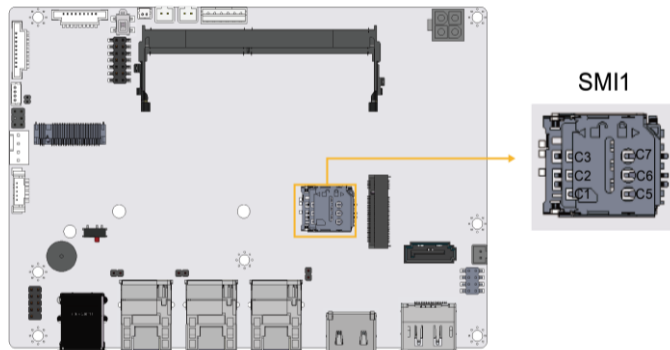

Figure 4-14: SIM Slot Location
- CN Location:** See Figure 4-14